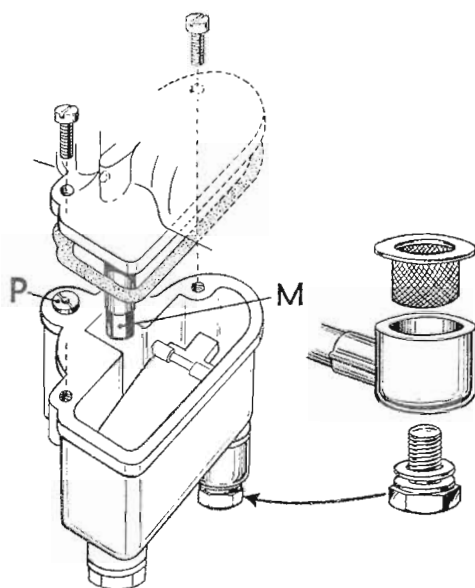

FIG. 7. The jets in the Amal carburettor.
The only items which may require attention by the driver are the main and the pilot jet, which are accessible after removal of the float chamber (Fig. 7).
The pilot jet (P) Fig. 7, is located on the upper face of the float chamber and can be unscrewed by means of a screwdriver.
The main jet (M) Fig. 7, is screwed into its holder which is part of the carburettor body and requires the use of a spanner to unscrew it.